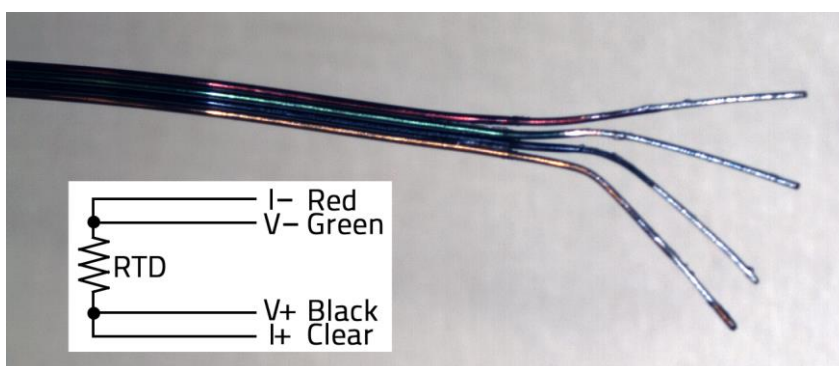

Figure 5-1. The Four Leads of the RTD Wire
2. Measure the resistance across the V+ (Black) lead and the V– (Green) lead, or across the I+ (Clear) lead and the I– (Red) lead (figure 5-1).